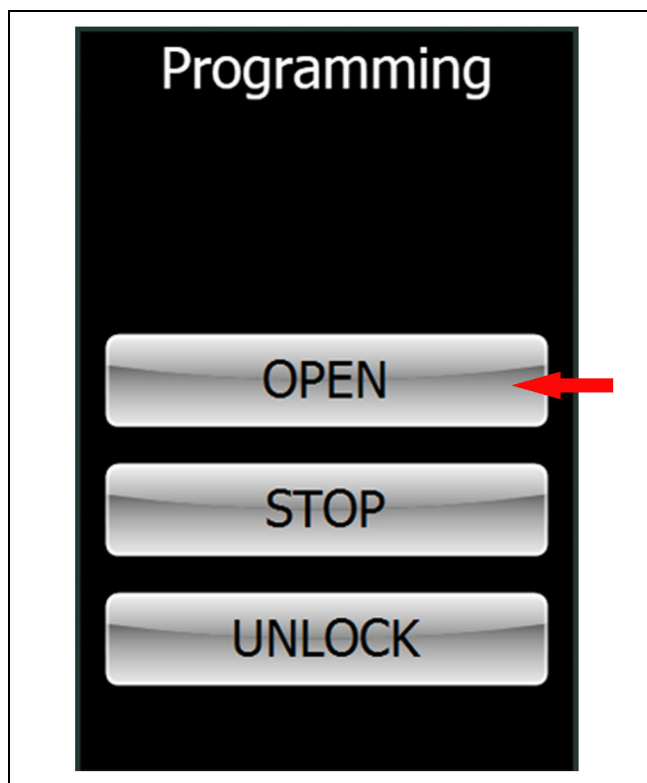

Figure 50
2. Press the "OPEN" button on the wall switch. The panel will start to move. If the door is moving to the open position, the polarity is correct. Let the panel move 24" and then press "UNLOCK" on the wall switch. The door will stop. See Figure 50.